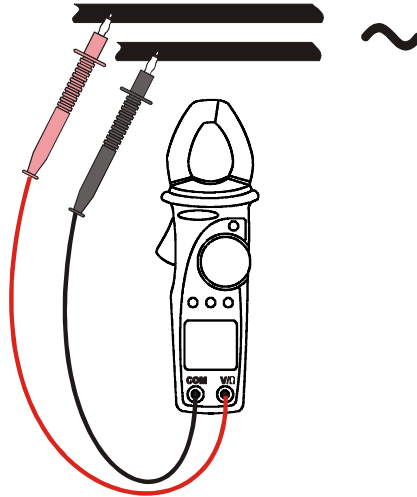

Fig. 6: frequency measurement with test leads
4. Connect the test leads to the circuit under test (see Fig. 6). The measured frequency value is displayed.
4. Connect the test leads to the circuit under test (see Fig. 6). The instrument displays the Total Harmonic Distortion value of the input signal. The symbol “**THD%**” is shown on the display. See chapter 0 for the parameter’s definition.